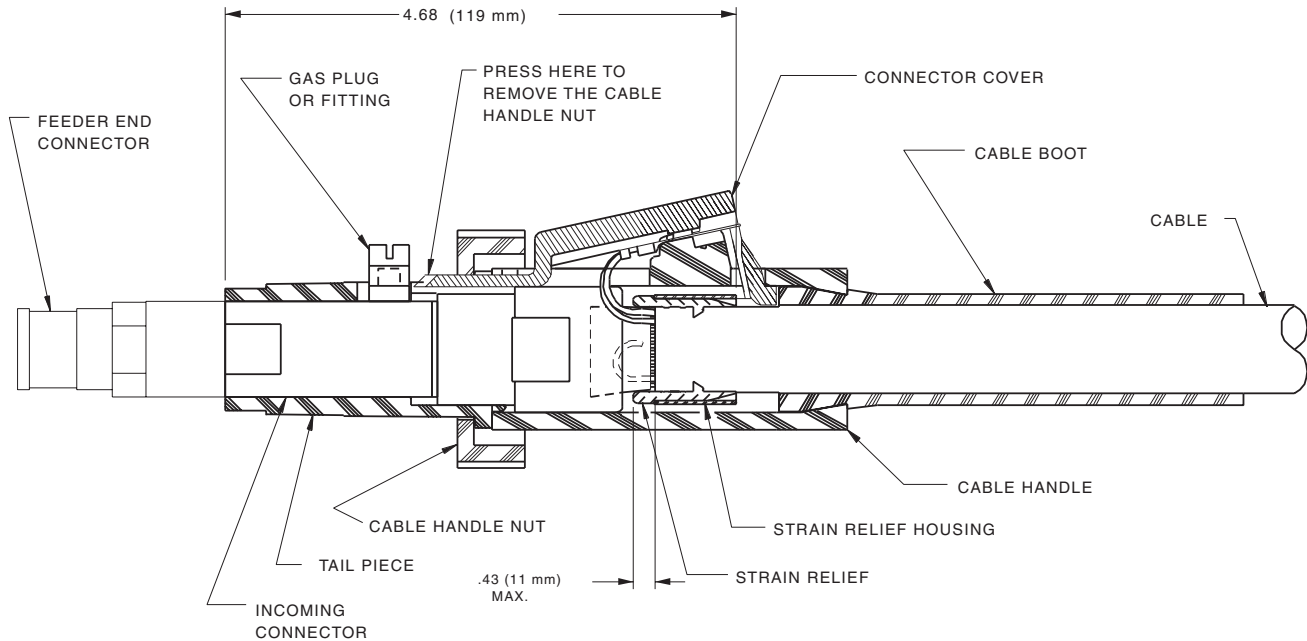

Figure 5
tailpiece and connector cover (see Figure 5).
- g. Position cable boot and cable handle on cable and assemble replacement control wire terminals in place on the cable handle. Insert connector cover in place. Install tailpiece and fasten to cable handle with cable handle nut. Refer to Figure 5.
Position the plastic strain relief such that the tapered end is 4.68 (119 mm) from the incoming connector (see Figure 5). Lock into place with steel housing. Plastic strain relief may overhang cable jacket a maximum of .43" (11 mm).